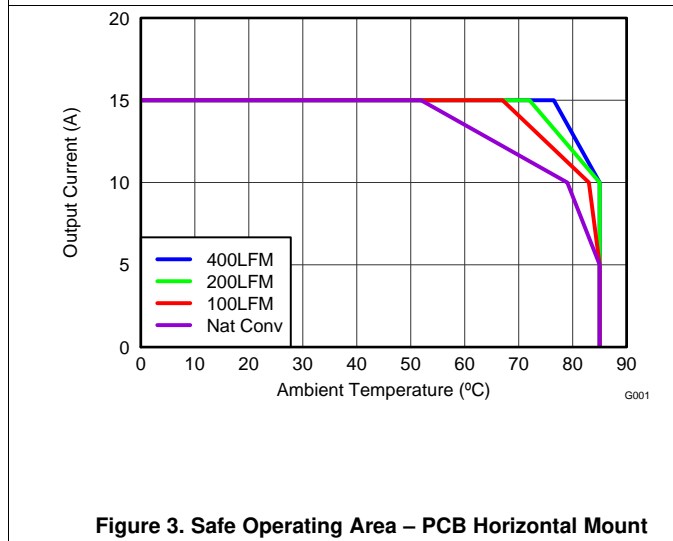
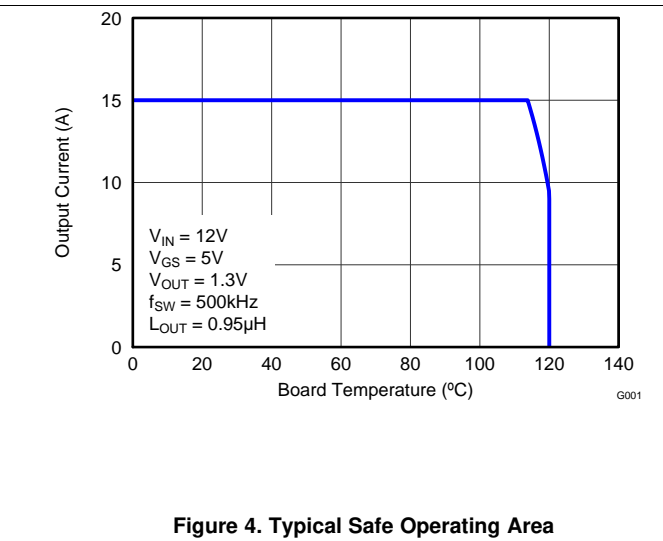

Figure 3. Safe Operating Area – PCB Horizontal Mount
Figure 4. Typical Safe Operating Area
$T_J = 125^{\circ}\text{C}$, unless stated otherwise. For Figure 3 and Figure 4, the Typical Power Block System Characteristic curves are based on measurements made on a PCB design with dimensions of 4 inches (W) × 3.5 inches (L) × 0.062 inch (H) and 6 copper layers of 1 oz. copper thickness. See Application and Implementation for detailed explanation.
$T_J = 125^\circ\text{C}$, unless stated otherwise. For Figure 3 and Figure 4, the Typical Power Block System Characteristic curves are based on measurements made on a PCB design with dimensions of 4 inches (W) \times 3.5 inches (L) \times 0.062 inch (H) and 6 copper layers of 1 oz. copper thickness. See Application and Implementation for detailed explanation.
The SOA curves in the CSD87381P data sheet provides guidance on the temperature boundaries within an operating system by incorporating the thermal resistance and system power loss. Figure 3 to Figure 4 outline the temperature and airflow conditions required for a given load current. The area under the curve dictates the safe operating area. All the curves are based on measurements made on a PCB design with dimensions of 4 inches (W) × 3.5 inches (L) × 0.062 inch (T) and 6 copper layers of 1 oz. copper thickness.